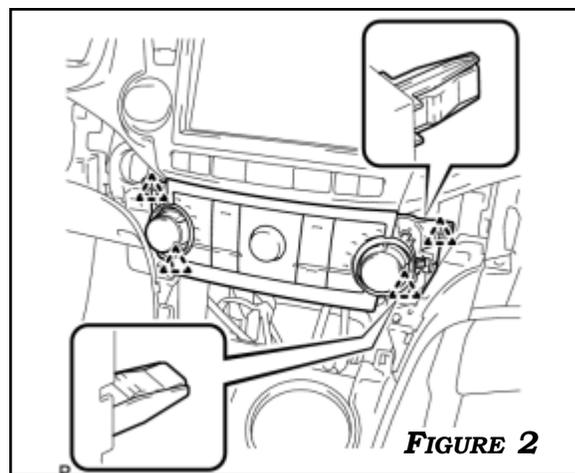

FIGURE 2
2. DISENGAGE THE 4 CLIPS AND REMOVE THE HEATER CONTROL AND ACCESSORY ASSEMBLY. **FIGURE 2**